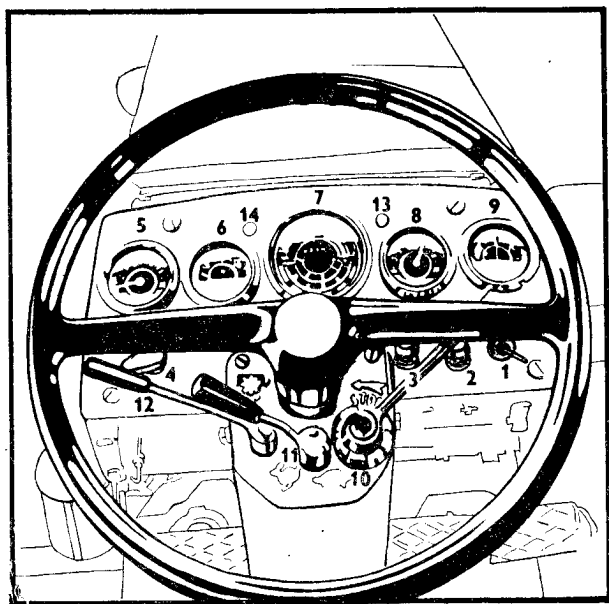

Fig. 1
- Switch box with key (Fig. 1/1)
- Dashboard illumination switch (Fig. 1/2)
- Starter push button (Fig. 1/3)
- Trafficator switch with electric horn push button (Fig. 1/4)
- Oil pressure gauge (Fig. 1/5) — a correct oil pressure varies within the range from 0.2 to 0.55 MPa
- Wather thermometer (Fig. 1/6) — operating temperature shall vary within the range from 80 to 95° C (overpressure radiator plug opens the cooling circuit at 106° to 111° C)
- Engine hour counter with speed indicator (Fig. 1/7)
- Air pressure (Fig. 1/8) — operating pressure 0.6 MPa
- Ammeter (Fig. 1/9)
- Fuel delivery hand control lever (Fig. 1/10)
- Torque multiplier control lever (Fig. 1/11)
- PTO clutch control lever (Fig. 1/12) — engaging
- Air pressure pilot lamp is red and whenever the air pressure drops below 65% of the predetermined pressure it is switched on (only on Z 12011 and Z 12045) (Fig. 1/13)
- Pilot lamp of torque multiplier oil pressure is red and whenever the oil pressure drops below 0.8 MPa it is switched on (Fig. 1/14 — Z 12011 and Z 12045 — optional)